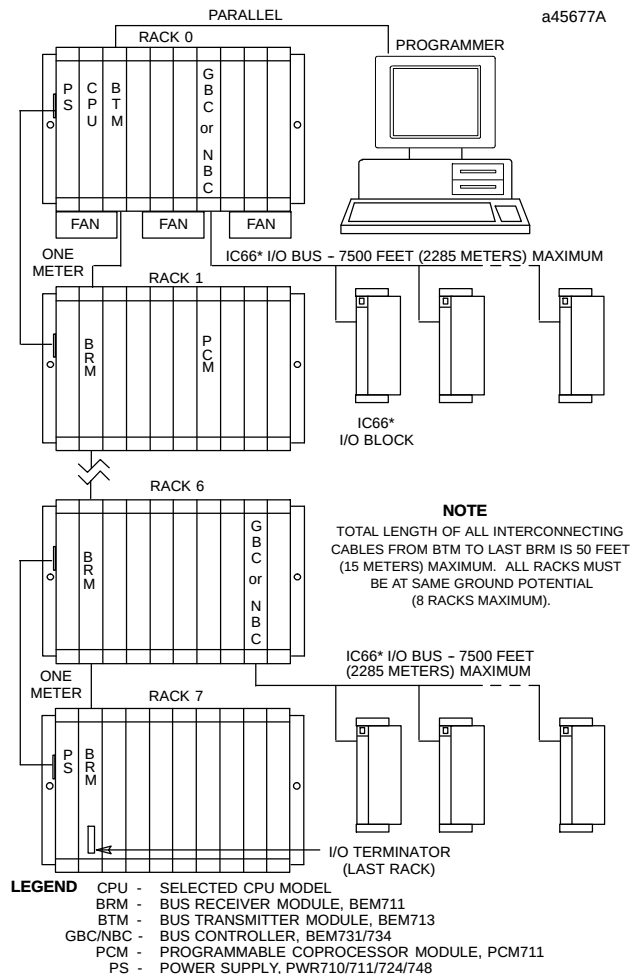

Figure 1. PLC System Configuration Example
- D Install the CPX 928 module in slot 1 of rack 0 (see Figure 1).
For a parallel interface (MS-DOS programmer only) the programmer is connected to the top port on the Bus Transmitter Module (IC697BEM713) as shown in Figure 1. Consult the applicable *Programming Software User's Manual* for a description of programming functions.